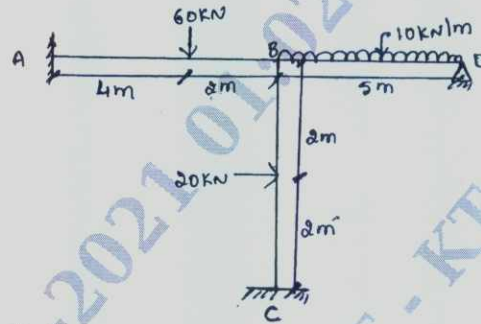

Fig. Q10
- 10 Analyze Portal frame shown in Fig. Q10, by Stiffness Matrix method. Draw Bending Moment diagram. (20 Marks)